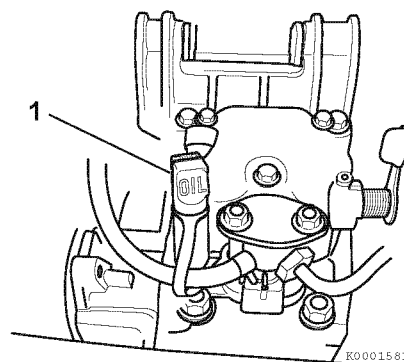

Figure 1
- 1- Remove the oil plug (1, **Figure 1**).
- 3- Reinstall the oil plug (1, **Figure 1**).